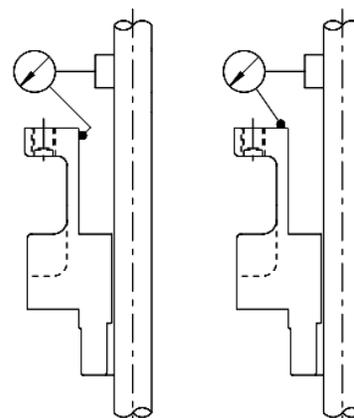

Figure 8.21
- 8.8.10.1 Once the rotating element has been set, install a dial indicator on the pump shaft as shown in Figure 8.21 and check the seal chamber face runout and bore concentricity by turning the rotating element by hand.